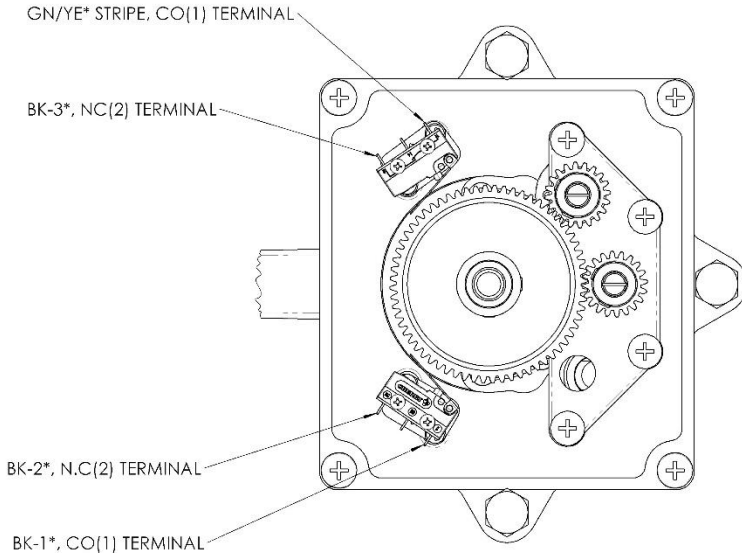

Figure 14: Default factory wiring diagram of new microswitches, 7163-B shown.
- a. The actuation lever of microswitch ② is clear of any obstructions through its range of motion.
- b. The microswitch ② actuation lever is depressed enough to actuate the switch contacts when the RFU is at its limit. This can be done by checking for no continuity across the Normally Closed(N.C) terminal 2 and the Common(C) terminal 1. See Figure 14 for clarity on terminals being checked. When the switch is depressed, terminal 1 and 2 should have no continuity.
- c. The microswitch ② lever is raised enough to let the switch go to its normally closed position when the RFU is not at its limit. This can be done by checking for a closed circuit (continuity) across the Normally Closed and Common terminals. When the RFU lever is off its limit position, there should be continuity across terminal 1 and 2.
- b. For reference the default factory wiring is given in Figure 14.